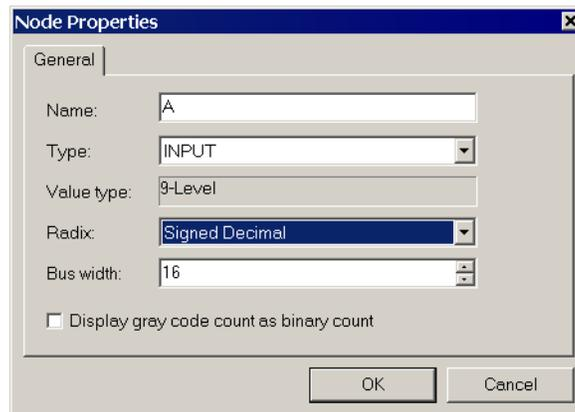

Figure 12. Definition of node properties.
5. Vectors can be treated as either octal, hexadecimal, signed decimal, or unsigned decimal numbers. The vectors *A*, *B*, and *Z* are initially treated as binary numbers. For our purpose it is convenient to treat them as signed decimal numbers, so right-click on *A* and select **Properties** in the pop-up box to get to the window displayed in Figure 12. Choose signed decimal as the radix, make sure that the bus width is 16 bits, and click OK. In the same manner, declare that *B* and *Z* should be treated as signed decimal numbers.